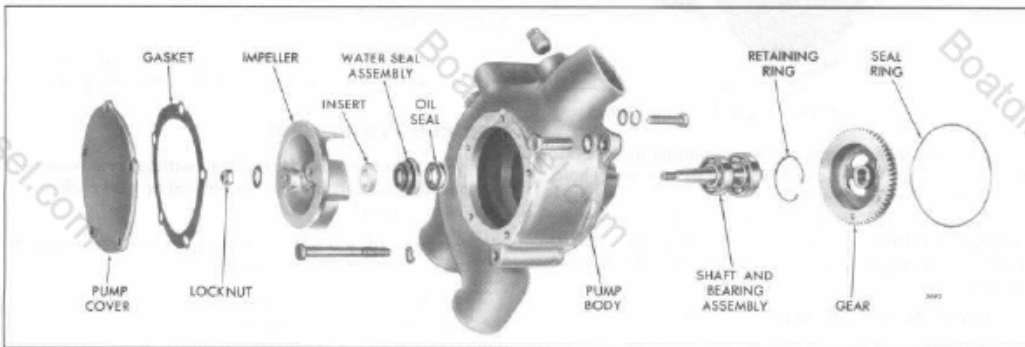

Fig. 2 - Former Water Pump Details and Relative Location of Parts
A bronze impeller is secured to one end of a stainless steel shaft by a locknut. The water pump gear is pressed on the opposite end of the shaft. Two ball bearings are used to carry the shaft. The larger bearing is used at the drive gear end of the shaft to accommodate the thrust load (Fig. 2 or 3).
1. Remove the pump cover bolts, pump cover and gasket (Fig. 2). Discard the gasket.
- d. Place the impeller assembly in a level position, with the ceramic insert up, in an oven preheated to 350°F (177°C) for one (1) hour to cure the adhesive.
7. Make sure the mating surfaces of the water seal and the ceramic insert are free of dirt, metal particles and oil film (Fig. 2).